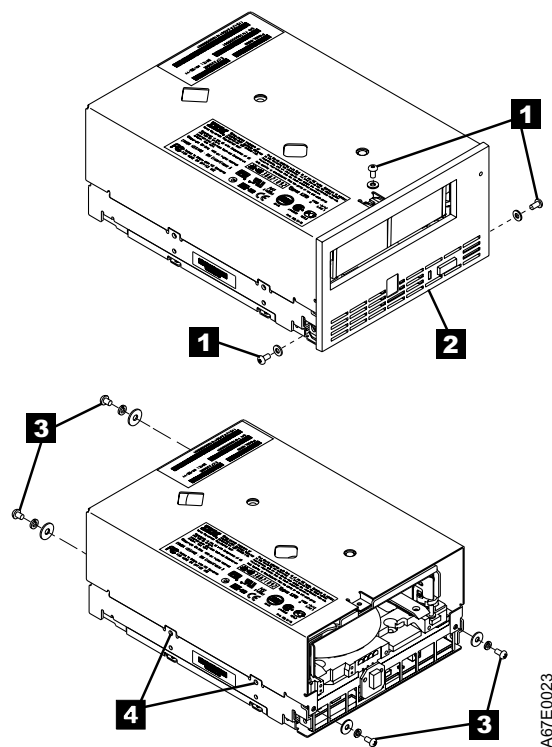

Figure 24. Removing the Top Cover of the Drive
- a. Remove the three screws and washers (see **1** in Figure 24) that secure the bezel **2**. Remove the bezel.